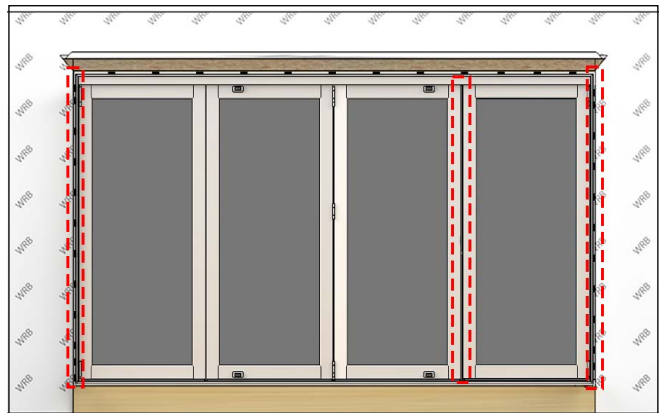

Figure 50
3. Adjust the top and bottom pivots horizontally to ensure consistent weather strip contact at the jambs and astragal (if applicable). See Figure 50, Figure 51, and Figure 52.